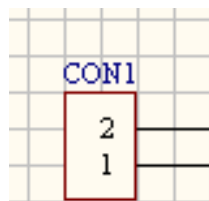

Figure 2.3 CON1 power port
**CON1—Power Supply:** The DLC-2 control card supports wide voltage DC power supply (12V-24V). It is recommended to use 12V/3A DC power supply. The power supply is connected from the CON1 2P green terminal pin. Among them, the power of the card is pin2 near the screen, and the pin1 is close to the USB interface. As shown in Figure 2-3 and Table 2-1 below: